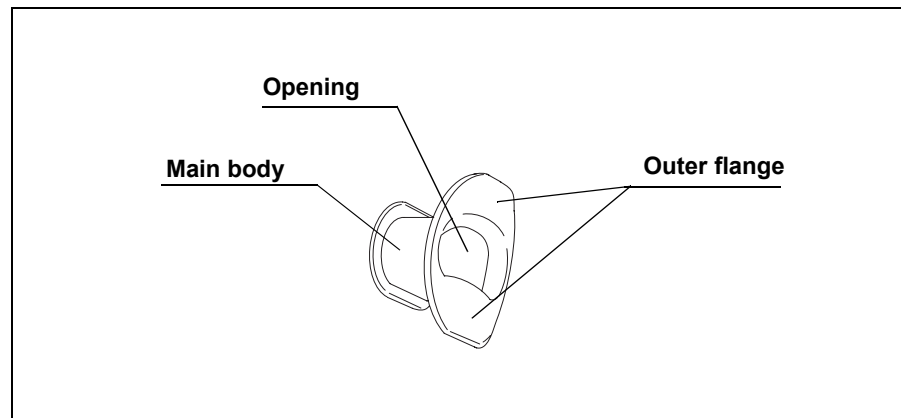

Figure 3.14
1. Confirm that the mouthpiece is free from cracks, deformation or discoloration (see Figure 3.14).
2. Using your fingers, check for excessive scratching or other irregularities on all surfaces of the mouthpiece (see Figure 3.14).